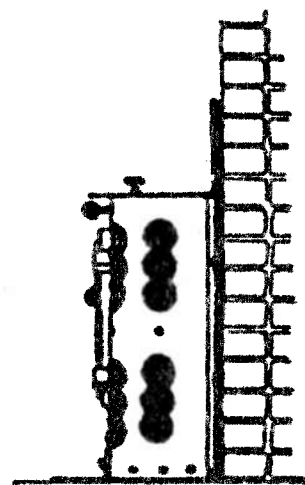

Figure 6
6. When the unit is slid into position in the fireplace, the insulation should be depressed against the masonry, sealing the entire edge of the fireplace edge. It will appear flush from the side (Figure 6). This will prevent loss of warm air up the chimney.